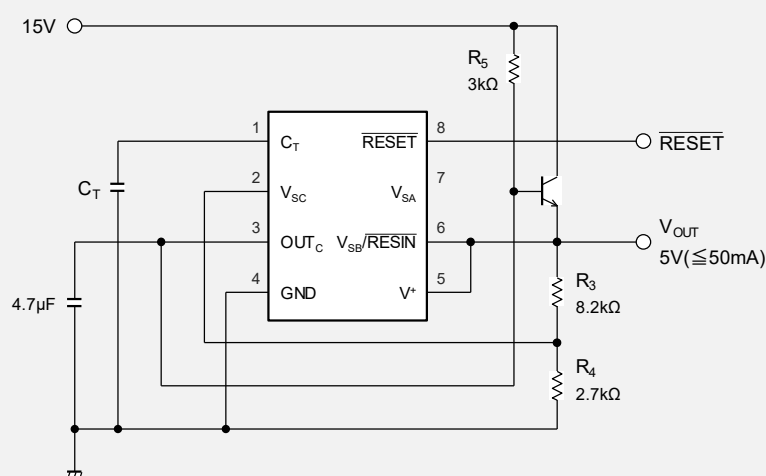

Fig. 12-1 Reference Voltage output and Voltage drop monitoring (e.g. 5V output, 5V monitoring)
- The reference voltage V_{OUT} is calculated as following formula. In case of resistor value in Fig.12-1, the reference voltage V_{OUT} is about 5.0V
5V Reference voltage V_{OUT} is generated by $V_{SC}(COMP_C)$ and feedback resistors R_2 , R_3 , and its 5V is monitored by $V_{SA}(COMP_A)$. Unlike Fig.12-1, 5V output cannot supply large current.